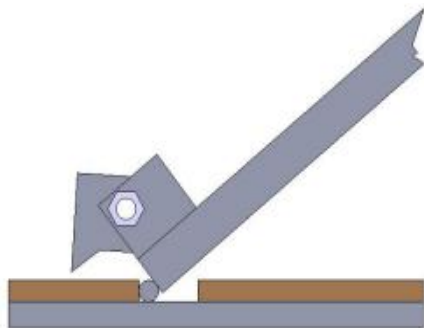

Fig.14
2. The roller must be disengage when lifting vehicle (**See Fig.16**). To raise and lock the lift: Press the button up till the lift is raised to the required height and the locks are in engaged (**See Fig.14**), then push release handle of the power unit, the lift would be locked.